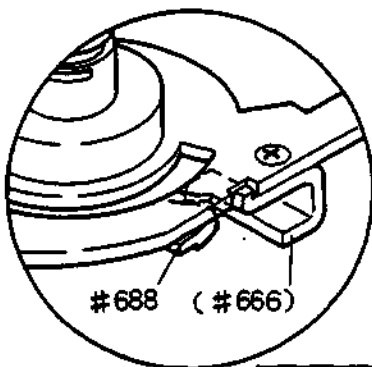

fig. 22-3
- 2) Brush gear should securely come in contact with Stopper (#666) when the aperture ring is reversed from F/2 to F/1.6. (fig. 22-2) Adjustment can be made by bending Stopper. (fig. 22-3)